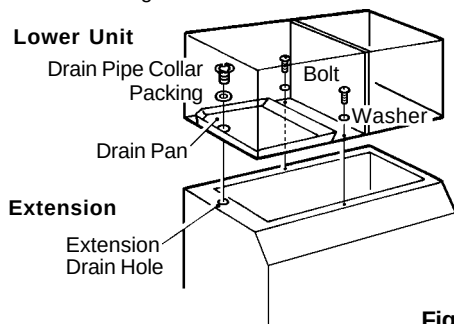

Fig. 6
5) Attach the lower unit (X-type) on the top of the Storage Bin. See Fig. 6.
6) Secure the lower unit with the two bolts and two plastic washers provided. See Fig. 6.
Align the drain hole and the drain pan hole. Insert the Packing (bin accessory) and fasten the Drain Pipe Collar (bin accessory) tightly, within the recommended torque of 39.2 Nm. See Fig. 6.